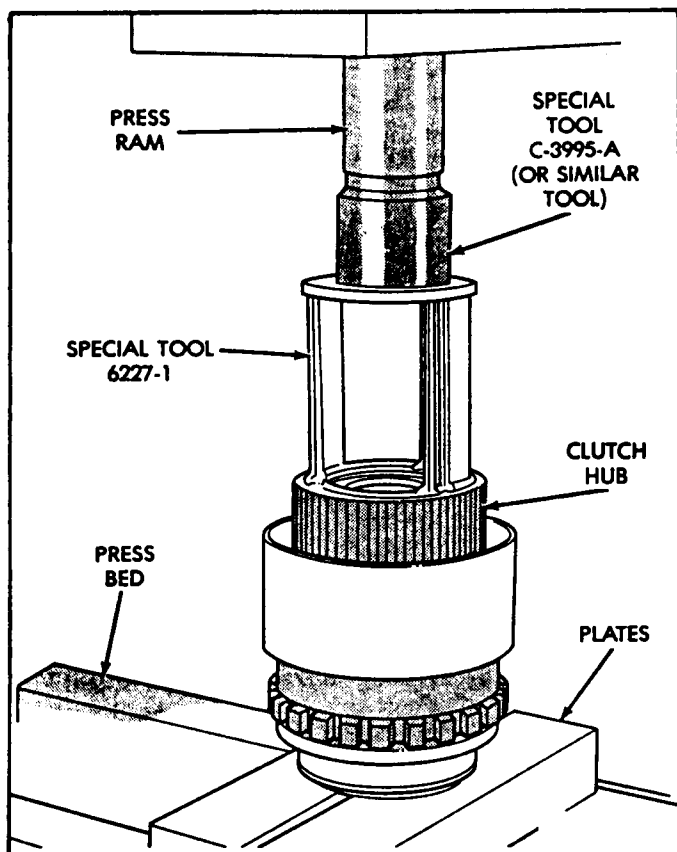

Figure 11
13. Mount the geartrain assembly in a shop press, as shown in Figure 11.
14. Position Compressor Tool 6227-1 on the clutch hub, as shown in Figure 11. Support output shaft flange with steel press plates as shown in Figure 11 and center assembly under press ram.
15. Use Special Tool C-3995-A, or a similar size tool, at top of 6227-1 to help distribute load and provide the needed extra press length (See Figure 11).